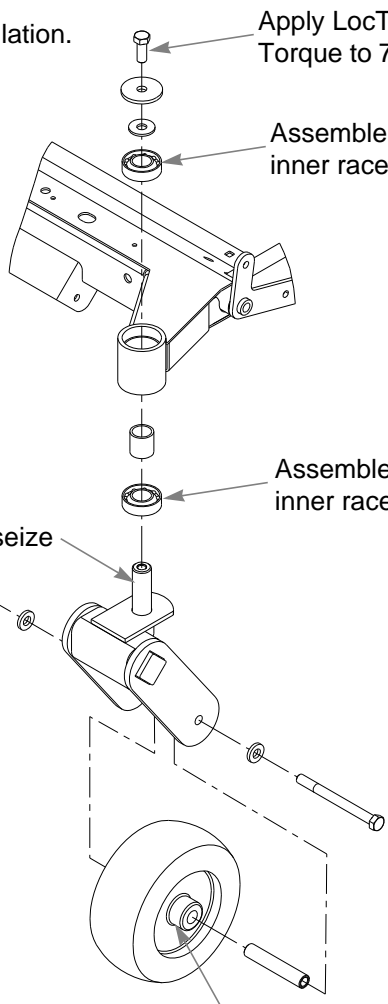

FIG. 1
6. Attach the flex fork to the mower frame using the existing hardware. Make sure that all hardware is replaced exactly as it was removed. Reference Fig. 1 for accurate part placement. Apply one drop of Loctite[®] 242 to the bolt threads. Torque the bolt to 75 ft-lbs (102 N•m).
7. Attach the wheel and tire to the new flex fork using the existing hardware. Tighten the nut, then back it off so the wheel spins freely, Fig. 1.
9. Apply grease to zerks where applicable (see your mower's operator's manual), Fig. 1.